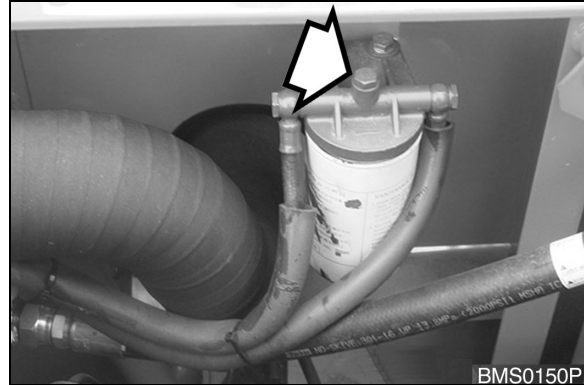

Figure 16
1. Loosen the plug (Figure 16) on top of the fuel filter head.